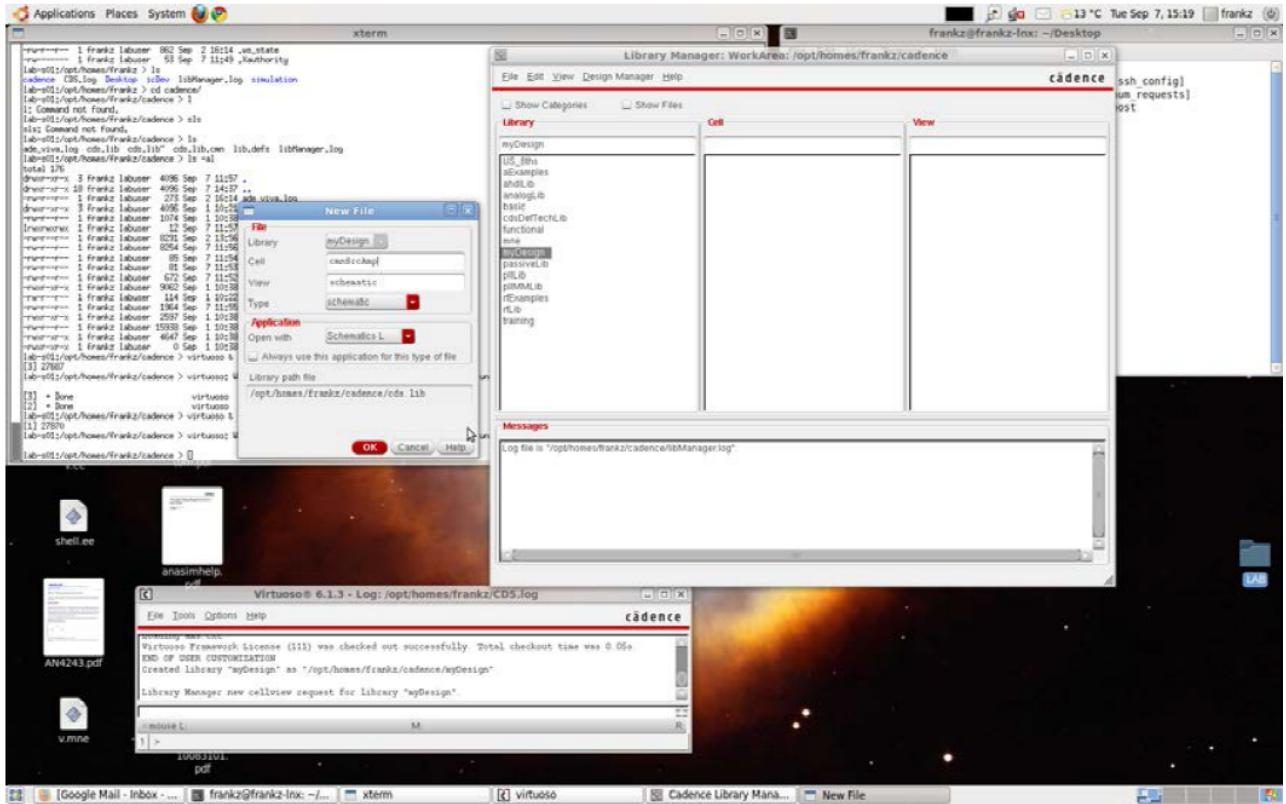

Figure 2: Creating a new schematic
- This will open up a window, *New File*, as shown in Figure 2. In the *New File* window, enter the following details.